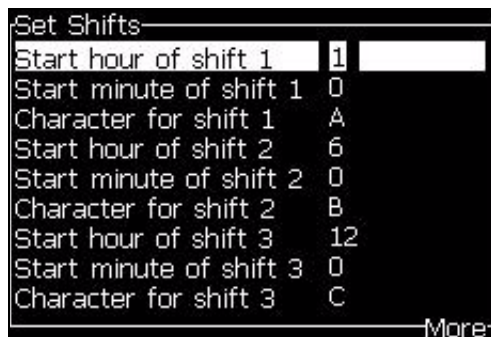

Figure 5-42: Set the Shifts
- 3 Press the *Enter* key to open the *Set Shifts* dialog box (Figure 5-42 on page 5-46).